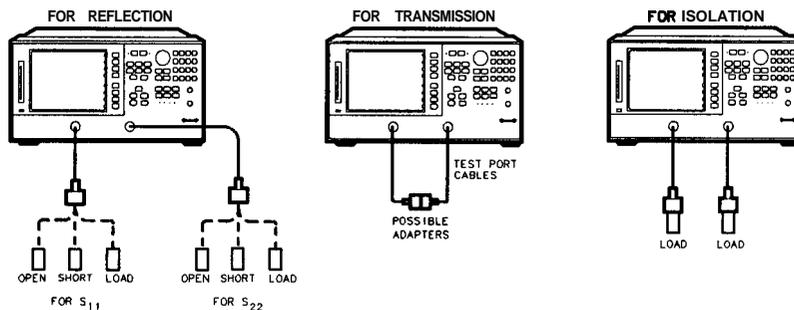

Figure 5-5.
7. Make a “thru” connection between the points where you will connect your device under test as shown in Figure 5-5.